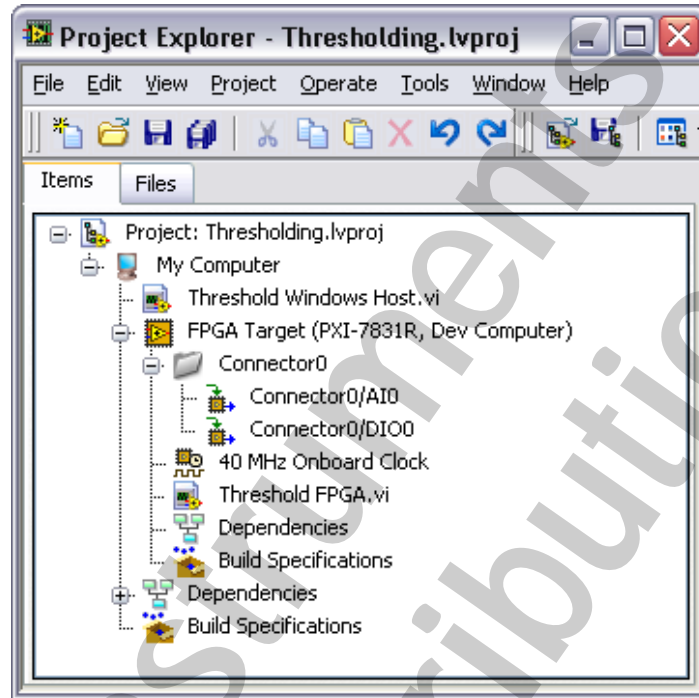

Figure 8-1. Thresholding Project Explorer
3. Verify that your Project Explorer window resembles Figure 8-1.